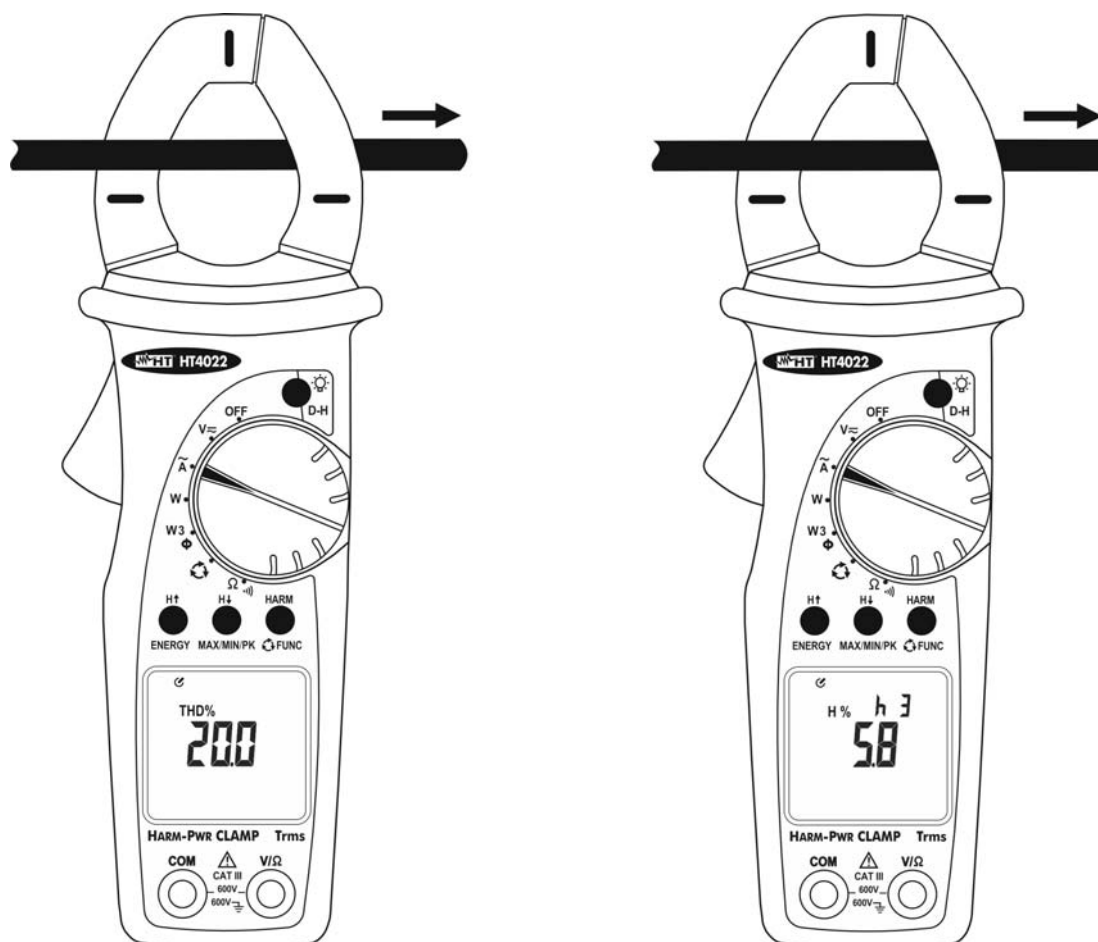

Fig. 10: Use of instrument for AC harmonic current measurement
3. Open the jaws and clamp only one cable. Pay attention to the alignment marks (see § 4.1.2. and Fig. 10). The instrument displays the Total Harmonic Distortion value of the input signal. The symbol “**THD%**” is displayed. See § 8 for the parameter's definition.